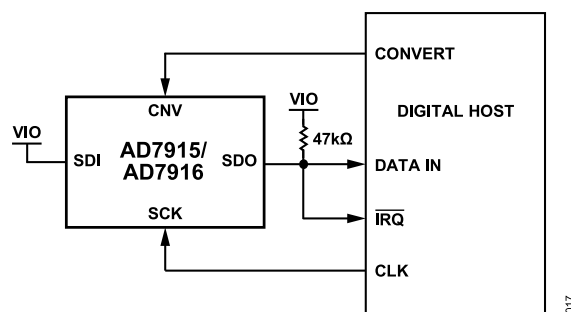
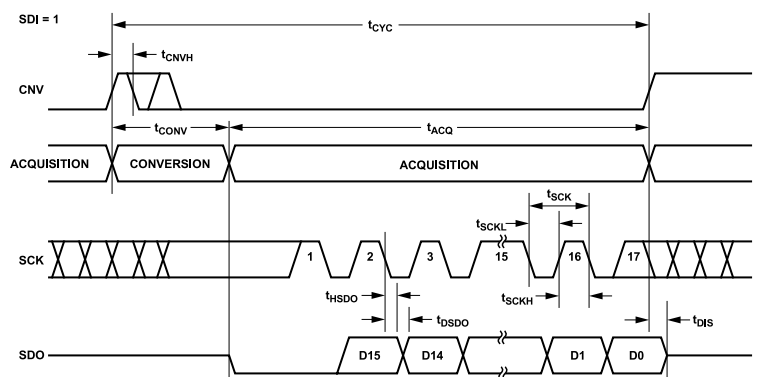
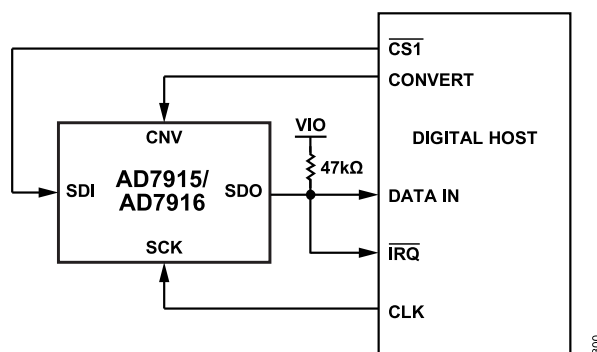
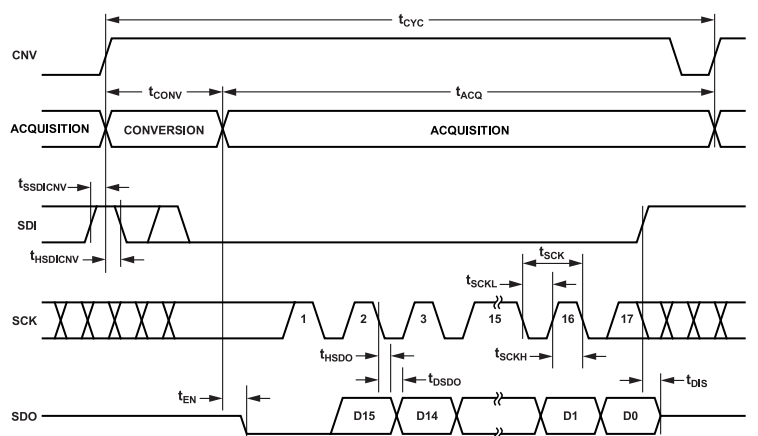

Figure 36. 3-Wire,  $\overline{\text{CS}}$  Mode with Busy Indicator Connection Diagram (SDI High)
Figure 37. 3-Wire,  $\overline{\text{CS}}$  Mode with Busy Indicator Serial Interface Timing (SDI High)
Figure 40. 4-Wire,  $\overline{\text{CS}}$  Mode with Busy Indicator Connection Diagram
Figure 41. 4-Wire,  $\overline{\text{CS}}$  Mode with Busy Indicator Serial Interface Timing
- ▶ in  $\overline{\text{CS}}$  mode if CNV or SDI is low when the ADC conversion ends (see Figure 37 and Figure 41).
The connection diagram is shown in Figure 36, and the corresponding timing is given in Figure 37.
The connection diagram is shown in Figure 40, and the corresponding timing is given in Figure 41.